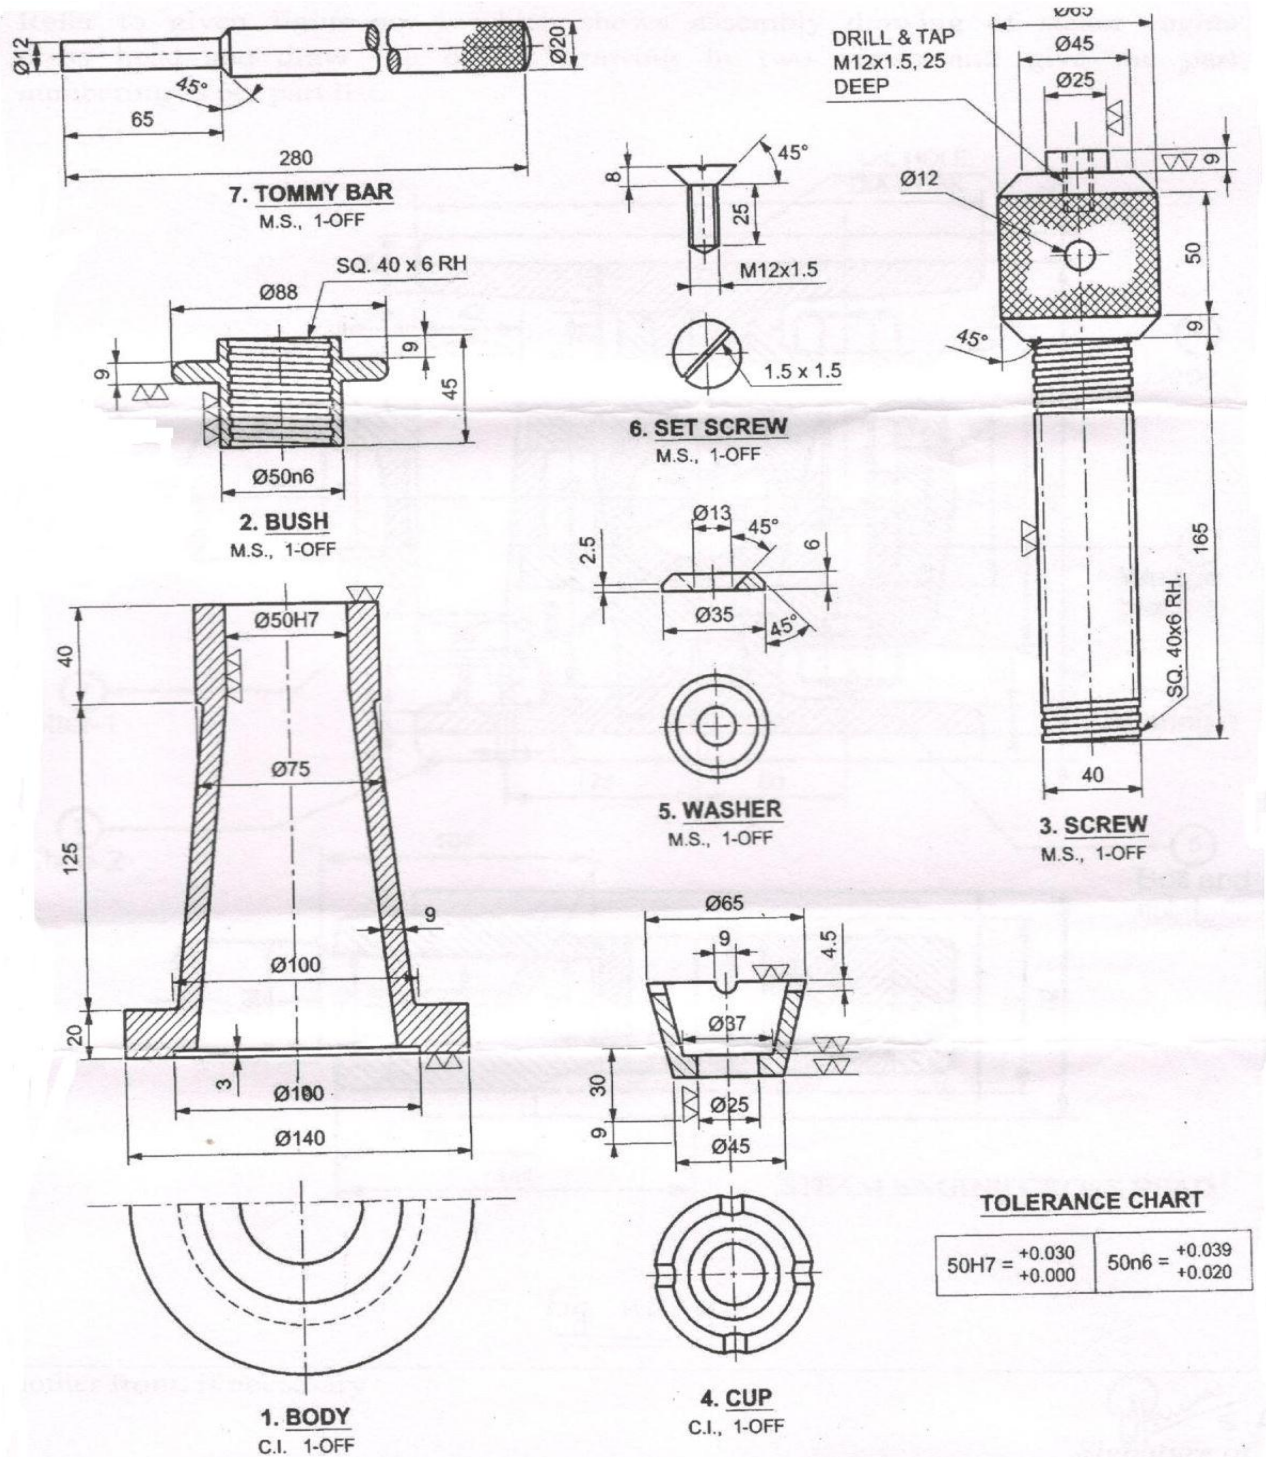

Fig. no. 3 Screw jack coupling details
Q.5 Figure No. 3 below shows details of a Screw Jack. Draw the following views of the assembly drawing along with 25 part numbering and part list.